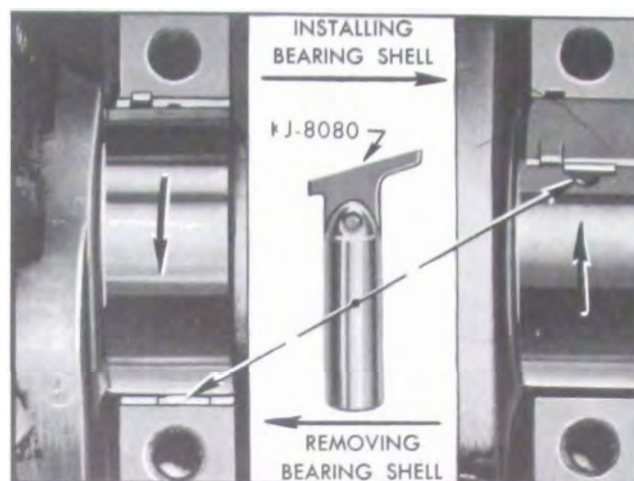

Figure 2-48—Removing and Installing Crankshaft Bearing Upper Shell
2. Remove upper bearing shell by inserting Bearing Shell Remover and Installer J-8080 in oil hole in crankshaft, then slowly turning crankshaft so that the tool rotates the shell out of place by pushing against the end without the tang. See Figure 2-48. CAUTION: When turning crankshaft with rear bearing cap removed hold oil seal to prevent it from rotating out of position in crankcase.
1. To assemble piston and pin to connecting rod, assemble press as shown in Figure 2-48 with full radial face of support J-8754-1 "up".